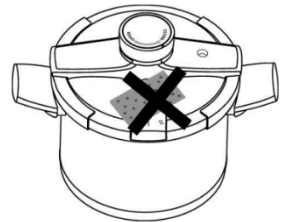

Fig.5
- 13. It is prohibited to put anything on the pressure-limiting valve (Fig. 5).